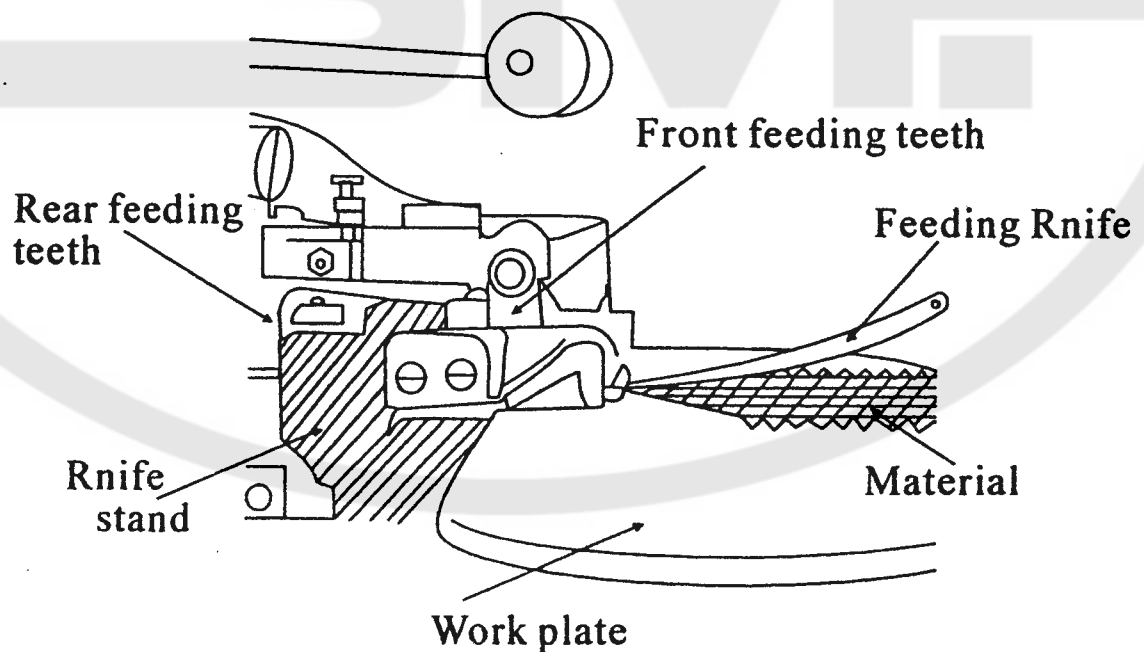

Fig.5
2. Press the rod. Leave the space between presser foot and feeding material retainer. Rotate the belt wheel, which makes front and rear feeding teeth rise. Feed the material into the front part of the feeding teeth with feeding cutter. Then the material is carried to the rear part of the feeding teeth:(Fig.5)